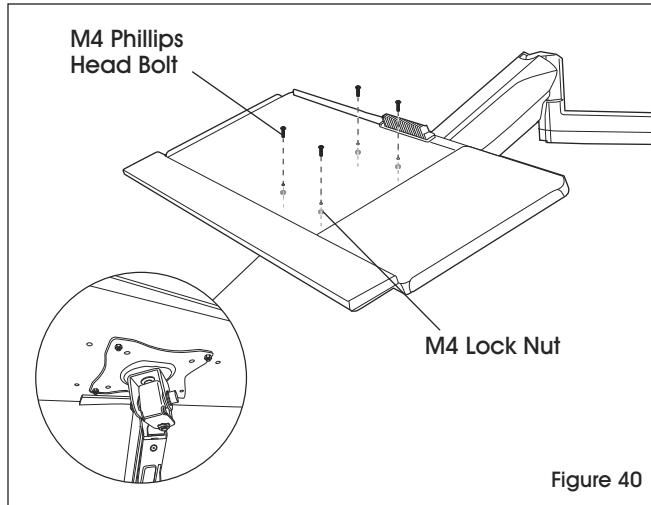

Figure 40
1. Attach keyboard tray to gas spring arm using four M4 Phillips head bolts and four M4 lock nuts with a Phillips screwdriver and 7 mm wrench. (See Figure 40)